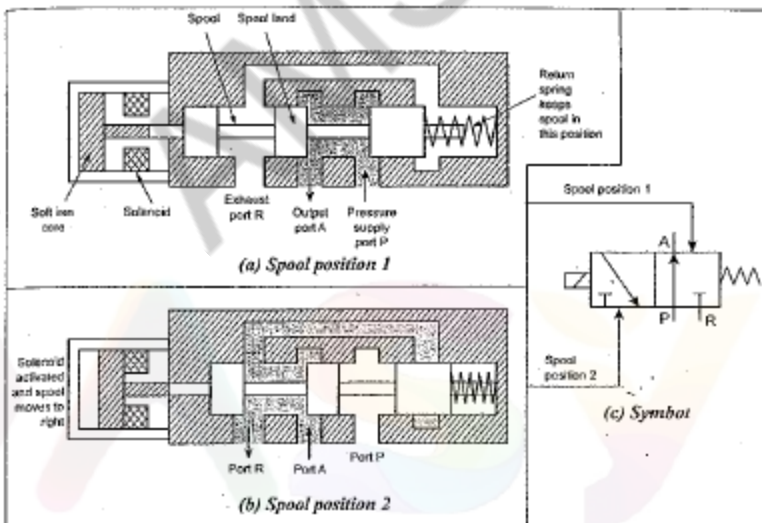

Fig. 7.11. Construction and operation of a solenoid-actuated 3/2 valve
As shown in Fig.7.11(a) and (b), the valve is actuated by a current passing through a solenoid and, returned to its original position by a spring. The spool slides over the finely finished valve bore inside the valve housing.
Spool position 1 : In the original or neutral position of the spool, (Fig.7.11(a)), the pressurized fluid flows from port P to port A to move the actuator, the exhaust port (R) remaining closed.
Spool position 2 : When the solenoid is activated (Fig.7.11(b)), the spool moves to the extreme left. In the extreme spool position, the fluid from port P gets closed and hence the fluid is permitted to flow from port A to port R.